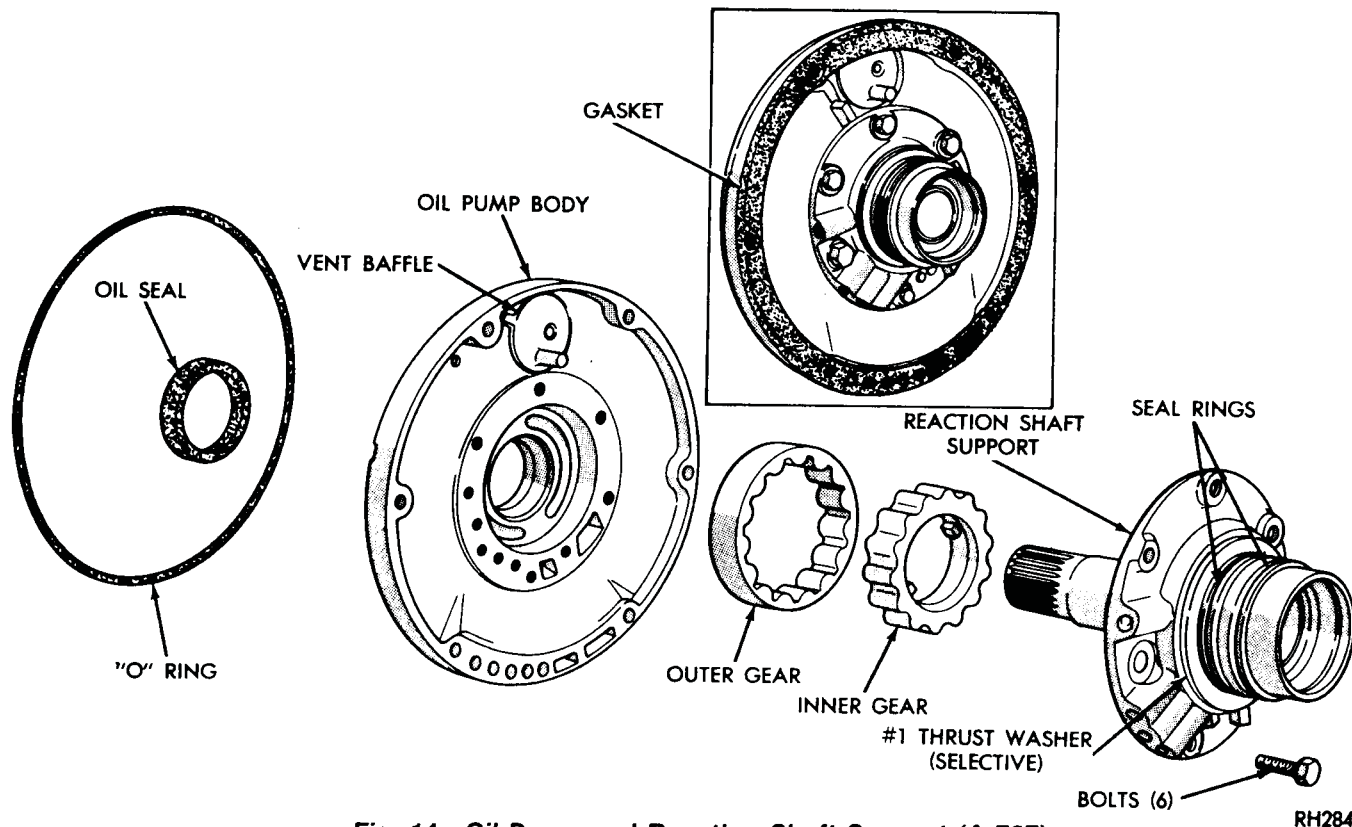

Fig. 14—Oil Pump and Reaction Shaft Support (A-727)
Figure 14 shows the oil pump and reaction shaft support disassembled.
Inspect interlocking seal rings (Fig. 14) on reaction shaft support for wear or broken locks, make sure they turn freely in the grooves. Inspect machined surfaces on pump body and reaction shaft support for nicks and burrs. Inspect pump body and reaction shaft support bushings for wear or scores. Inspect pump gears for scoring or pitting. With gears cleaned and installed in pump body, place a straightedge across face of gears and pump body. Use a feeler gauge to measure clearance between straightedge and face of gears. Clearance limits are from .001 to .0025 inch. Also, measure gear tip clearance between inner and outer teeth. Clearance limits are from .005 to .010 inch. Clearance between outer gear and its bore in oil pump body should be .004 to .008 inch.
(1) Assemble pump gears and "O" ring in the pump housing (Fig. 14).
(2) Install reaction shaft support. Install retaining bolts and tighten to 175 in. lbs. (20 N·m).